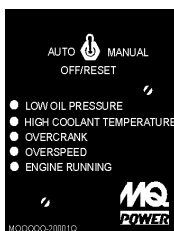

Figure 13. MPEC
9. **Pre-Heat Button** – Press hold this button until the pre-heat lamp is lit (ON).
10. **MPEC – Microprocessor Engine Control Module** – (MPEC) has a vertical row of status LED's (Figure 13), that when lit, indicate that an engine malfunction (fault), has been detected. When a fault has